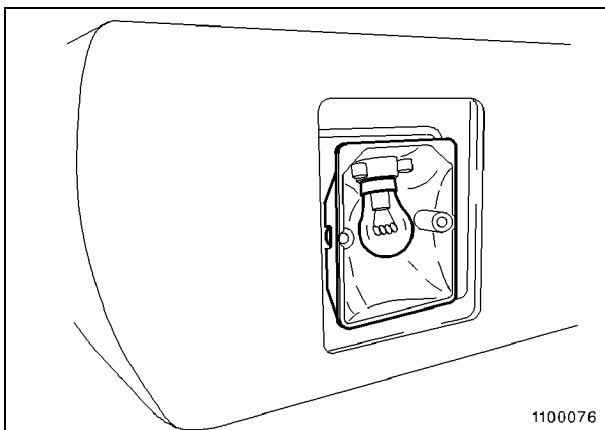

Fig. 4
- The lamp bulb is installed in a socket (Fig. 4):